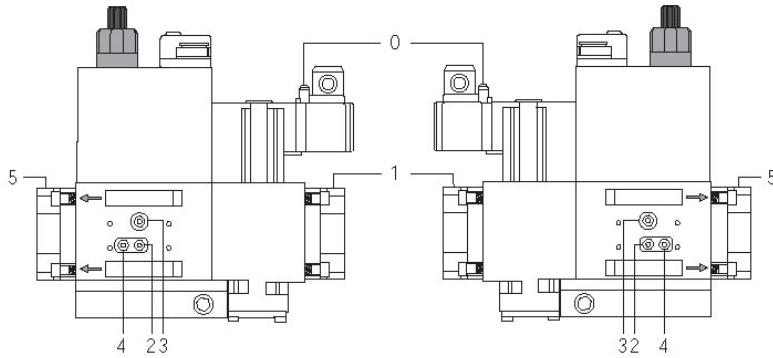

Fig. 29
- Change the filter if the pressure difference between pressure connection 1 and 2 (Fig. 28-Fig. 29)  $\Delta p > 10$  mbar.
- Change the filter if the pressure difference between pressure connection 1 and 2 (Fig. 28-Fig. 29) is twice as high compared to the last check.